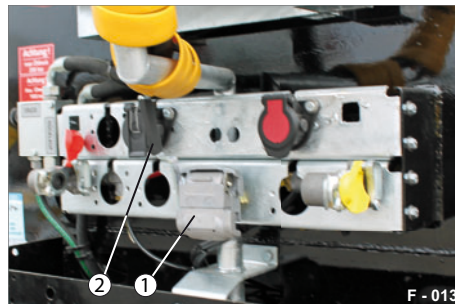
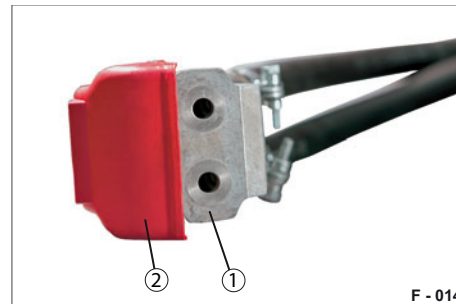

Fig. 20 Duo-Matic, coupled
Fig. 21 Duo-Matic, uncoupled
- ▶ Push the handle (Fig. 20/2) of the Duo-Matic quick-release coupling socket on the trailer downwards and slide the Duo-Matic coupling head (Fig. 21/1) under the opened protective cover.
- ▶ Pull the handle (Fig. 20/2) of the Duo-Matic quick-release coupling socket upwards and pull out the Duo-Matic coupling head (Fig. 21/1) from under the protective cover.
- Push the handle (Fig. 20/2) of the Duo-Matic quick-release coupling socket downwards and slide the Duo-Matic coupling head (Fig. 21/1) under the opened protective cover.
- Pull the handle (Fig. 20/2) of the Duo-Matic quick-release coupling socket upwards and pull out the Duo-Matic coupling head (Fig. 21/1) from under the protective cover.